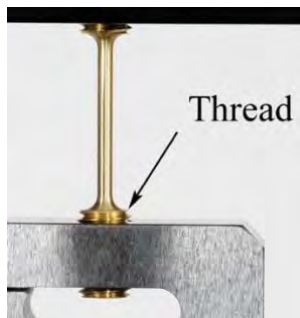
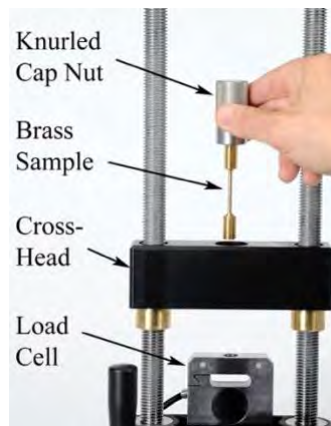

Figure 2: Center Threads
Figure 3: Installing Sample
1. Some of the accessories (such as the Tensile Samples shown in Figure 2) thread directly into the top of the Load Cell. The end with the longer threads should be screwed into the knurled cap nut, as shown in Figure 3. Lower the sample through the hole in the cross-head and screw the other end of the sample into the top of the Load Cell.